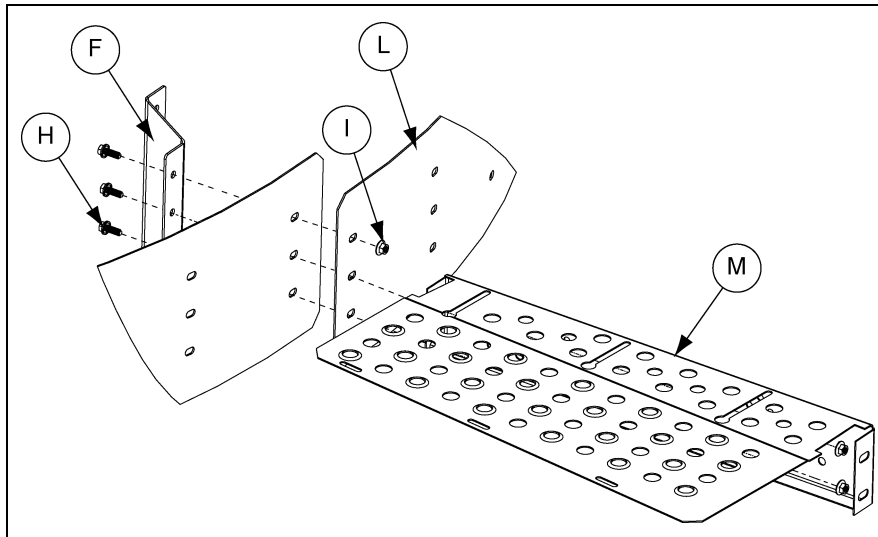

Figure 3C
2. Install the inner toe board (L) and planks (M) to the wall brackets (F) using bolt (H) and nut (I). (See Figure 3C.)